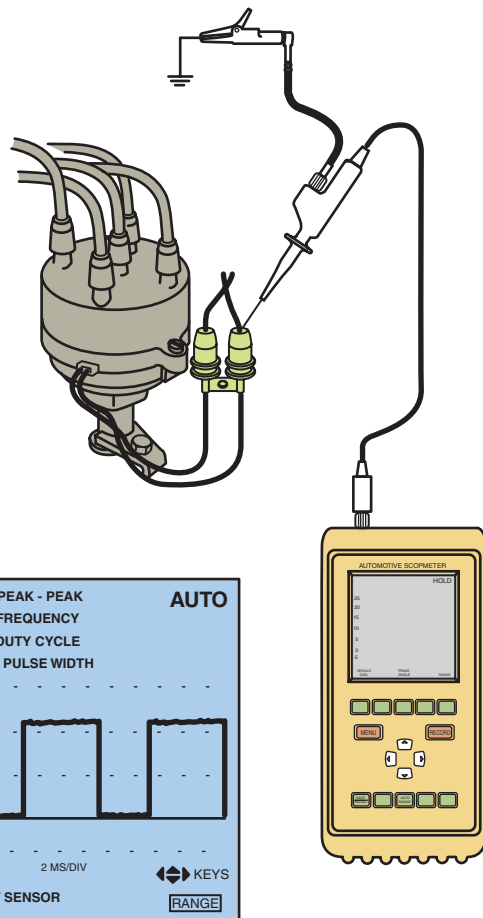

FIGURE 18-26 The connection required to test a Hall-effect sensor. A typical waveform from a Hall-effect sensor.
- Waveform, using an oscilloscope ● **SEE FIGURE 18-26.**